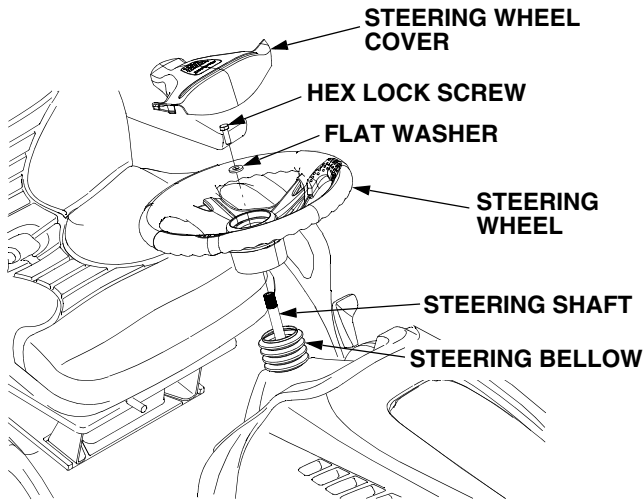

Figure 1
1. Locate the steering bellow and note the riser at one end of the bellow. With the riser facing upward, slide the bellow onto the steering shaft. Refer to Figure 1.
4. From the operator's seat, rotate the steering wheel so that the spokes of the wheel are in the basic 'T' position. Align the splines of the steering wheel hub with the splines of the steering shaft and press the steering wheel onto the shaft. See Figure 1.